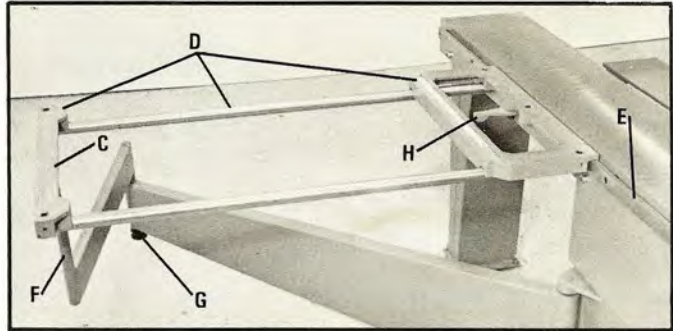

Fig. 18
3. Position sliding table extension assembly (D) Fig. 18, onto table guide (E) and place top end of post (F) into one of the holes on the underside of support (C). Knob (G) is used to adjust the height of extension assembly (D) so that the extension assembly is level with the sliding table. The extension assembly (D) can be locked to the sliding table by tightening lever (H) Fig. 18.